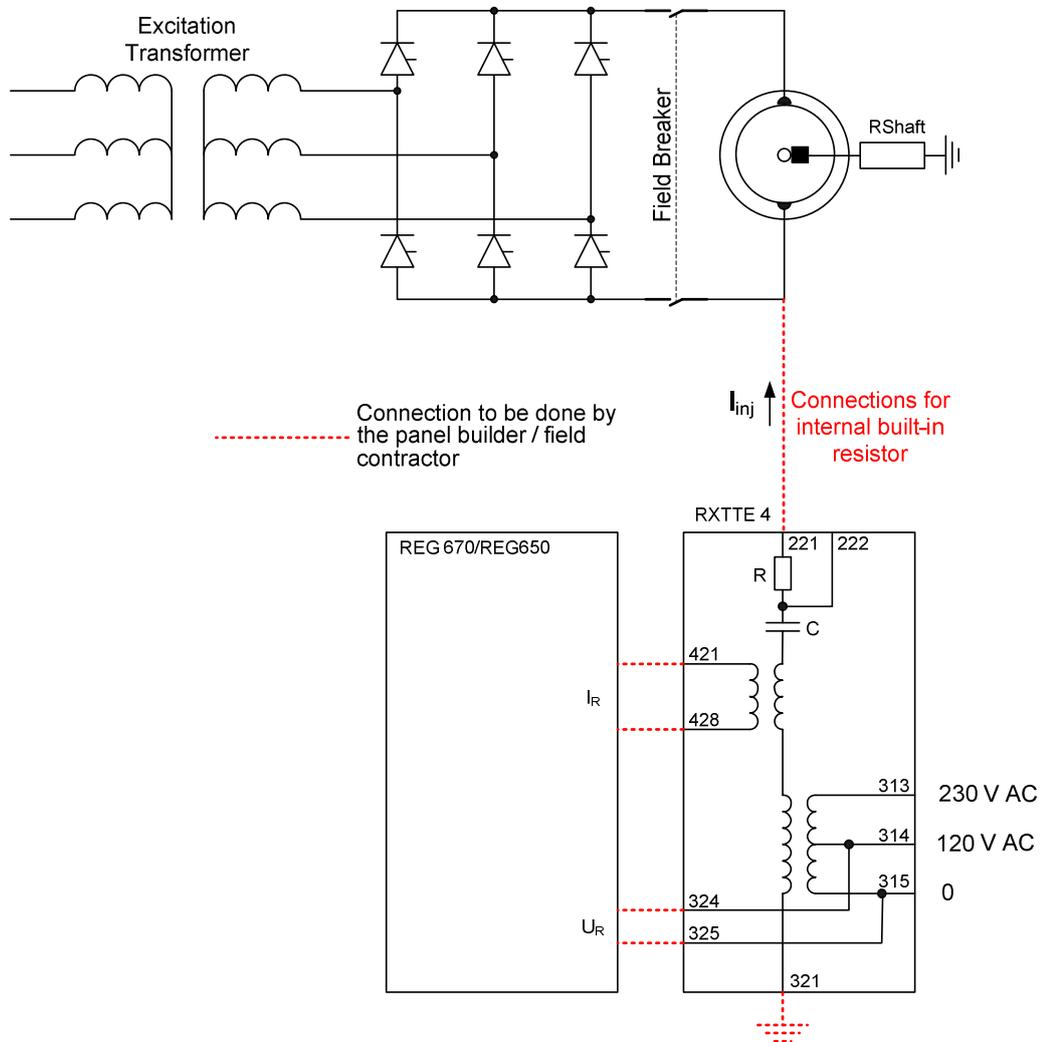
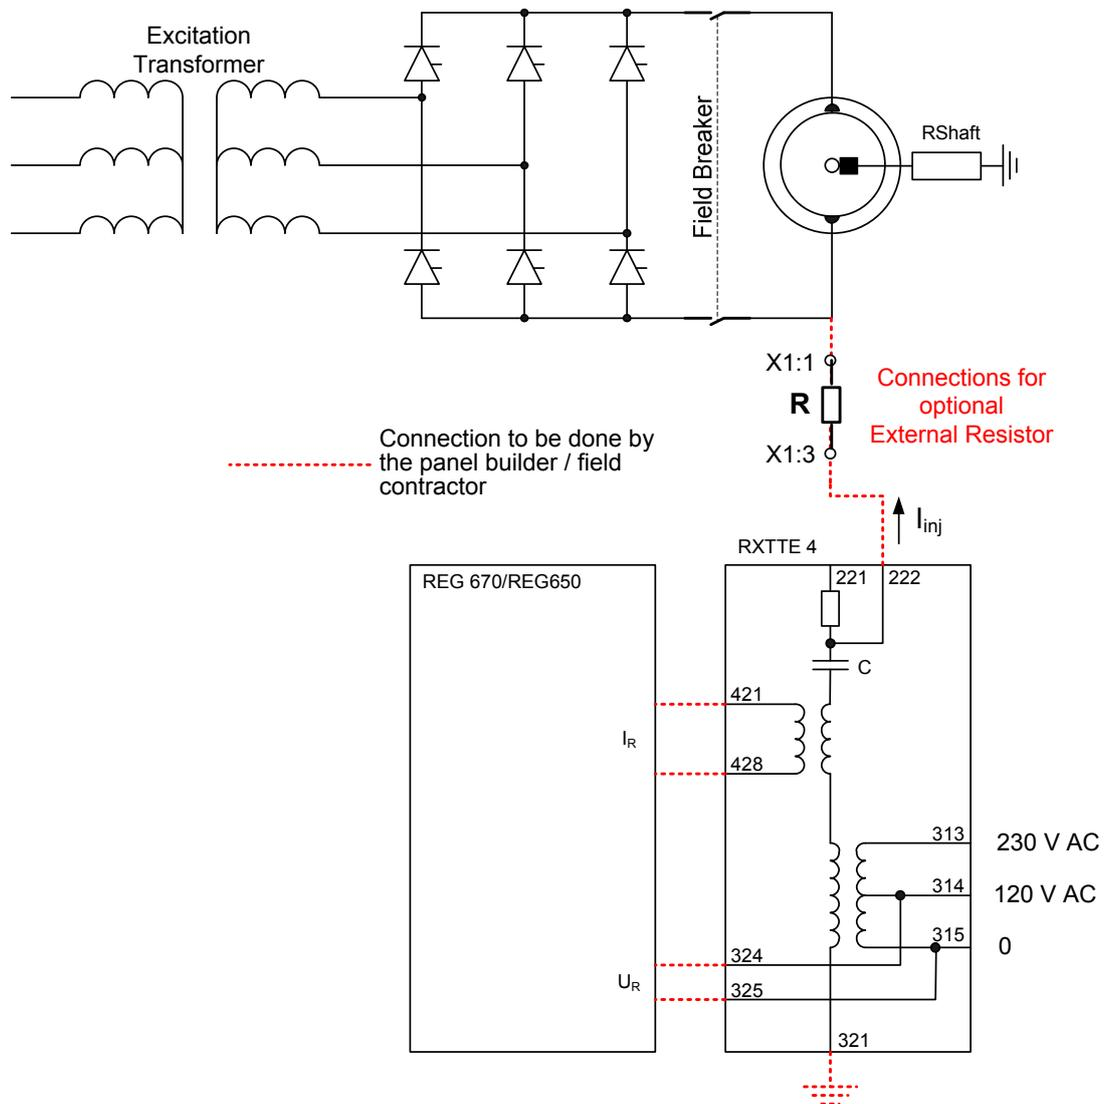
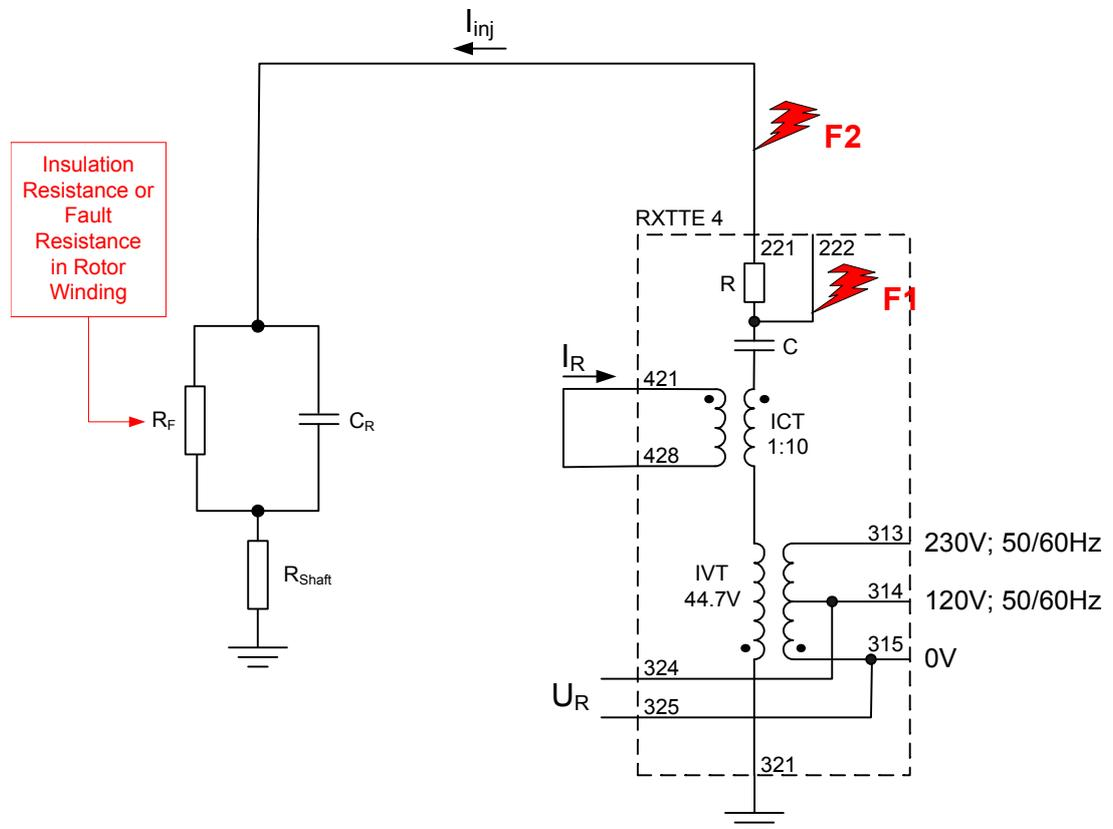
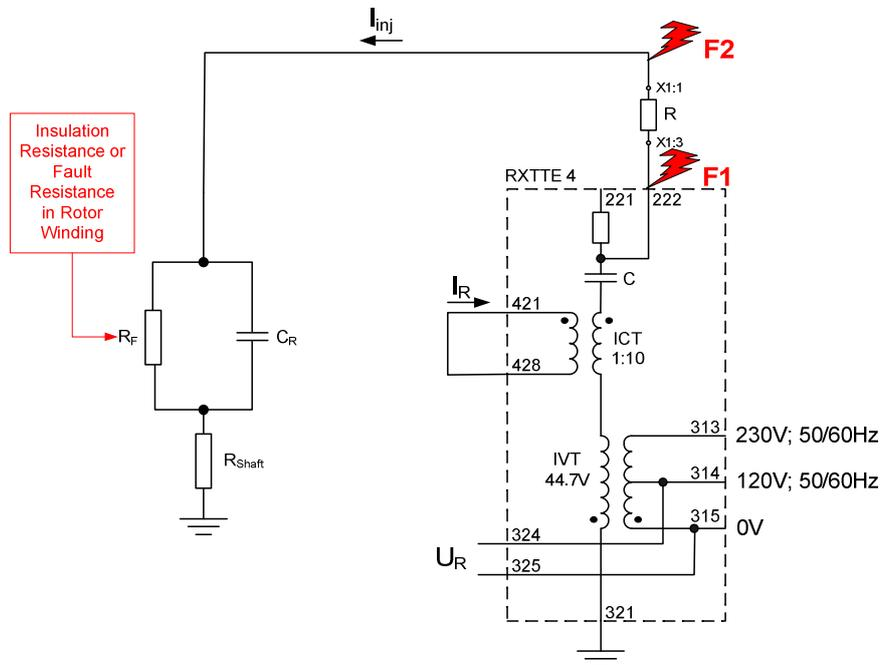

Figure 2: Direct connection of RXTTE4 to the rotor winding
Figure 3: Connection of RXTTE4 to the rotor winding via protecting resistor
Figure 7: RXTTE4 equivalent circuit when internal resistor is used
Figure 8: RXTTE4 equivalent circuit when external resistor is used
The injection unit RXTTE 4 shall be connected between one of the two rotor poles (i.e. either plus or minus) and the earth. The resultant injected current signal is then connected to an analog current input of REG IED and the injected voltage signal is connected to an analog voltage input of REG IED, as shown in Figure 2. Due to quite low level of the injected current signal it is recommended to use 1A rated analog current input in REG 670 and sensitive current input in REG650 for this protection. Note that REG IED will actually measure ten times bigger current than the real injected rotor current due to selected ICT ratio of 1:10.
RXTTE4 can be connected directly to the rotor winding as shown in Figure 2, or via a protective external resistor mounted close to the generator as shown in Figure 3.
The voltage input into REG IED is always taken directly from the 120 V input tap on the RXTTE4, as shown in Figure 2 and Figure 3. It is recommended to set the primary rated VT voltage to 100 kV and the secondary rated VT voltage to 100 V. By doing so, the displayed service value for the primary voltage (i.e. called U_R in further text), both from the function and from the TRM channel will directly correspond to the injected voltage in volts on the 120 V tap.
1. Small rotor capacitance to ground (i.e. $C_R < 2\mu\text{F}$, see Figure 7)
A fundamental frequency voltage (i.e. 50Hz or 60Hz) is injected via the injection unit RXTTE4 into the generator field winding circuit. Typically the injected voltage towards the rotor circuit is around 40V. This voltage forms a small current I_{inj} (see Figure 2) which flows via internal capacitor C and resistor R into the connected rotor circuitry. The internal current transformer (ICT) of the RXTTE4 then amplifies this current with its ratio 1:10 to a measurable level by the selected current input on the REG IED. Note that current I_{inj} has its path via rotor winding isolation resistance and rotor winding capacitance to rotor axle.
The rotor axle is grounded either via turbine (e.g. contact between turbine blades and water for the hydro units) or via dedicated grounding brush on to the rotor axle. The grounding brush is connected to earth either directly or via an additional shaft resistance (see R_{Shaft} in Figure 2 and Figure 7). When RXTTE4 is used condition $R_{Shaft} \leq 200\Omega$ shall be fulfilled. The following equivalent circuit can then be drawn for the RXTTE4:
- 4) Connect the required alarm fault resistance (e.g. $5k\Omega$) between the connection point of the injection cable to the rotor circuit and the ground (i.e. fault point F2 in Figure 7 or Figure 8). Write down U_R , I_R , β and $I_R \cdot \cos\beta$ values.
It is also recommended to calculate the maximum possible fault current which will be obtained for earth fault in locations F1 and F2 as shown in Figure 7 and Figure 8. This maximum fault current magnitude can be estimated by using the following equation:
* Fault point as shown in Figure 7 or Figure 8